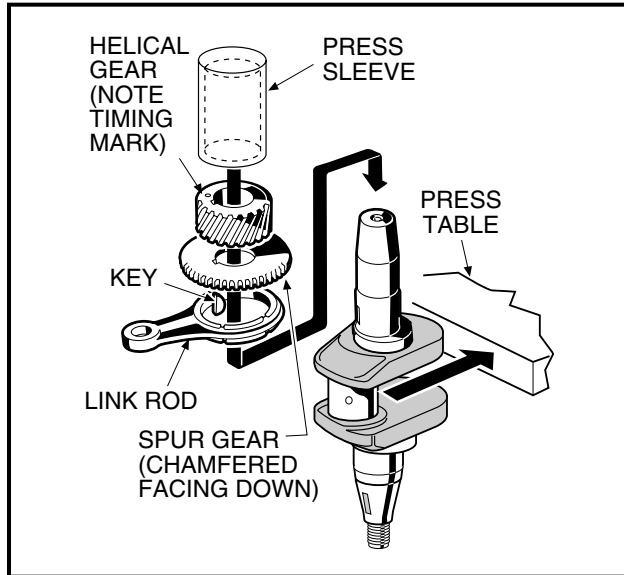
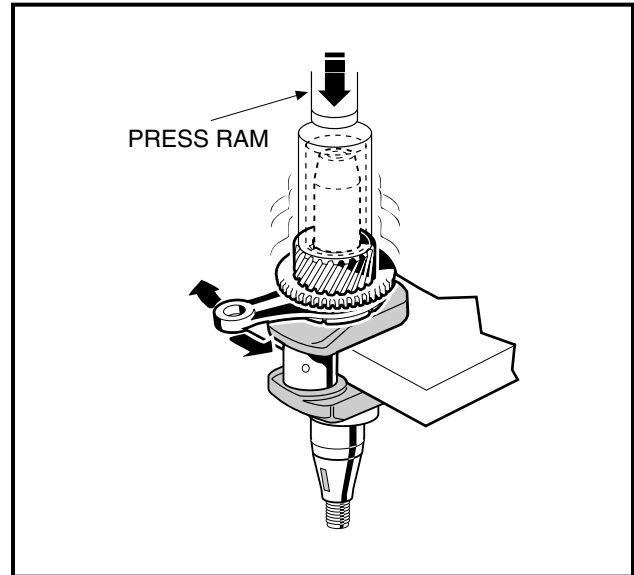

Figure 3-87 Crankshaft Installation
Figure 3-88 Press on Spur Gear and Helical Gear
1. Inspect the camshaft surfaces, one in the crankcase (3) (**Figure 3-87, Page 3-41**) and the other in the crankcase cover (1) (**Figure 3-88, Page 3-41**). Use an inside micrometer or telescoping gauge to measure the inside diameter of each bearing surface. If the inside diameter is greater than 0.9080 inch (23.063 mm), replace the crankcase and/or the crankcase cover.
2. Inspect the crankshaft bearing surface (2) in the crankcase. Use an inside micrometer or telescoping gauge to measure the inside diameter of the bearing surface. If the inside diameter is greater than 1.1841 inch (30.075 mm), replace the crankcase (**Figure 3-87, Page 3-41**).